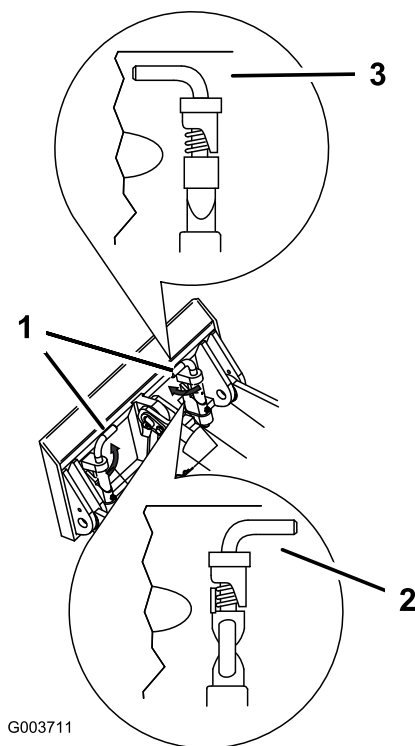

Figure 9
7. Engage the quick-attach pins, ensuring that they are fully seated in the mount plate (Figure 9).